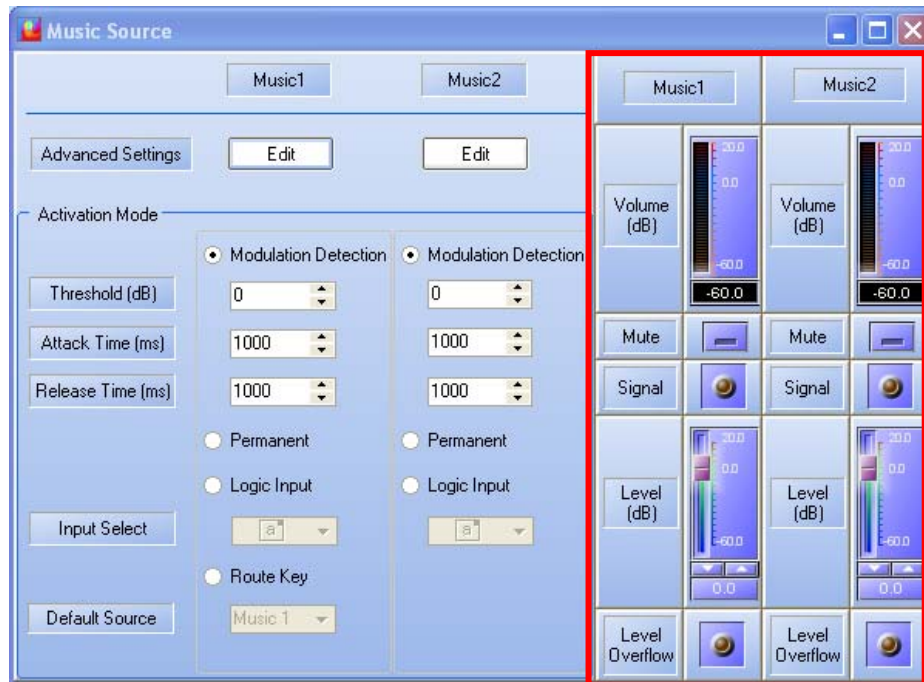

Figure 12: Music Source window
- Double Click on the music source icon to open the “Music Source” window (Figure 12). Before going any further, please keep in mind that this chapter only intends to set up the use of two audio sources and to be able to control them (front panel and software, see chapter 4.4.1). On the figure, the part that is red framed is for the real time control.